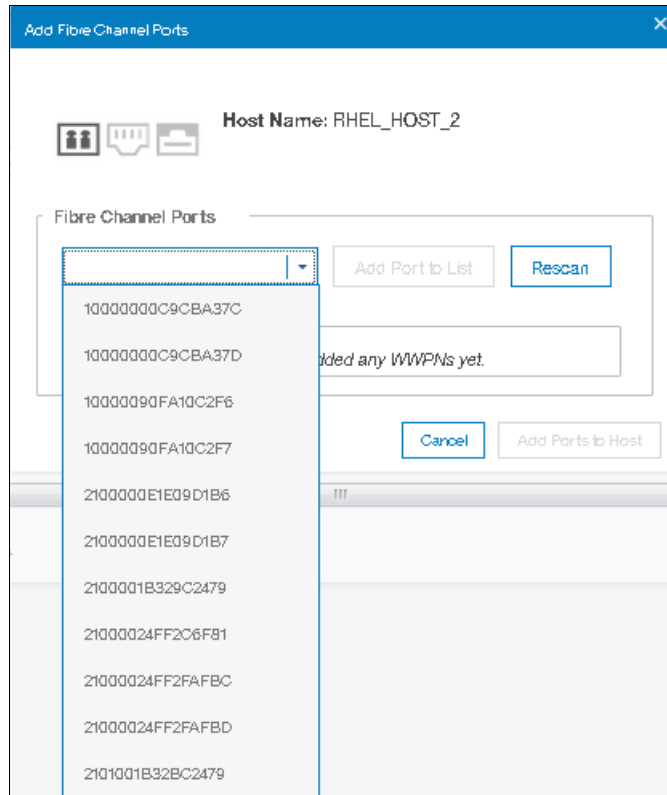

Figure 8-32 Drop-down of WWPNs
3. A window opens with a drop-down for you to choose the desired WWPN to be added as shown in Figure 8-32 on page 369.